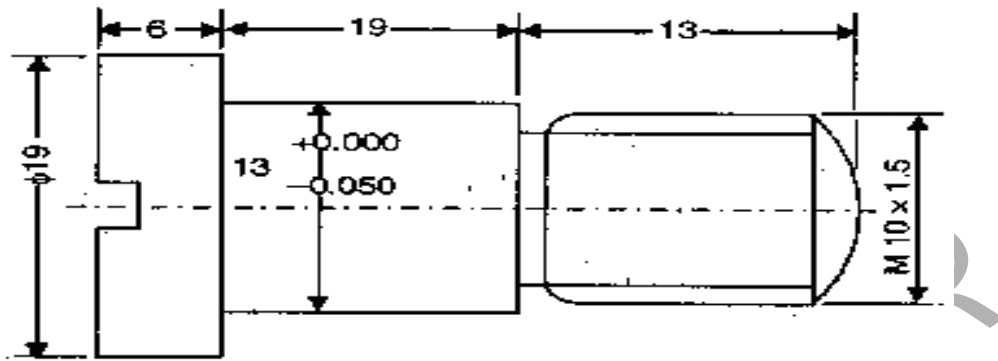

Figure 2:
6. Draw the tool lay out for the component as shown in the figure 2 and mention the sequence of operations performed on it [16]